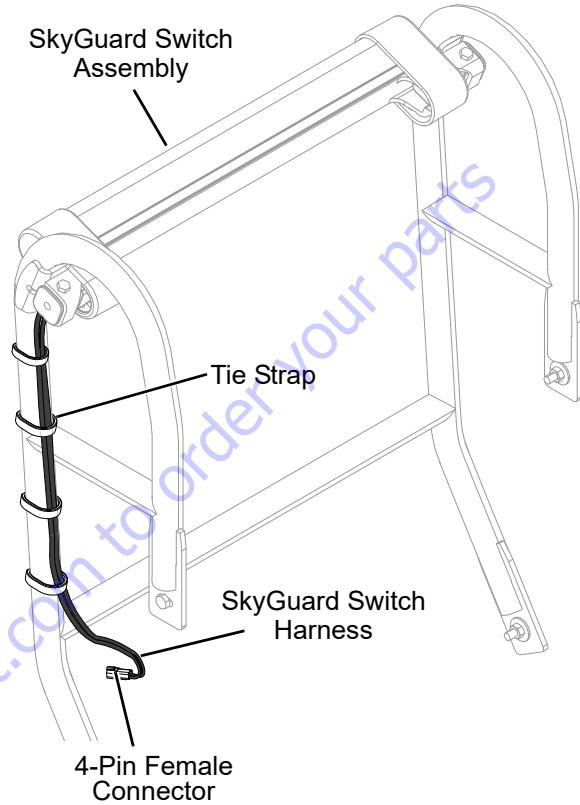

Figure 4-18.
9. Route the SkyGuard switch harness along SkyGuard support bracket (right side) and under the platform control box. Secure the harness using tie straps. See Figure 4-18.